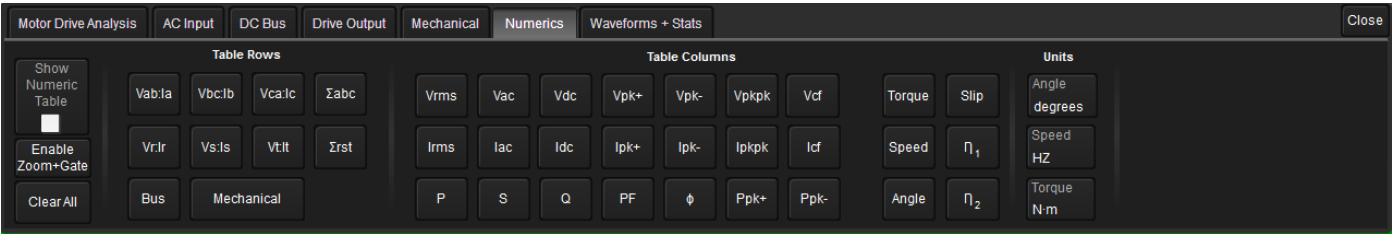

Figure 43: Default Numerics dialog before defining table.
Table rows are the sources that are available to display, corresponding to the wiring configuration inputs, and these selections change dynamically based on selections made for the AC Input, DC Bus, and Drive Output wiring configurations and the Mechanical torque and speed/direction methods. In Figure 43, the AC Input wiring configuration is a 3-phase/4-wire (3V3A) resulting in V_A , V_B , and V_C (line-neutral) voltages paired with I_A , I_B , and I_C line currents, whereas the Drive Output wiring configuration is a 3-phase/3-wire (3V3A) resulting in V_{RS} , V_{ST} , and V_{TR} (line-line) voltages paired with I_R , I_S , and I_T line currents. In both cases, there is a Σ three-phase value. The (DC) Bus selection will appear or not based on whether the “None” or “1-phase/2-wire (1V1A)” selection is made. The Mechanical selection will appear as long as there is one method selection made for torque or speed/direction.